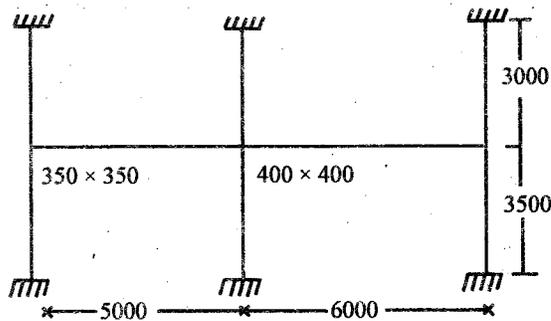

Fig 1
- (a) Determine the stiffness distribution factors and maximum bending moments in the beams and columns in the substitute frame shown in Fig 1. The T-beam is assumed to have a depth of 600 mm and web width is 350 mm.